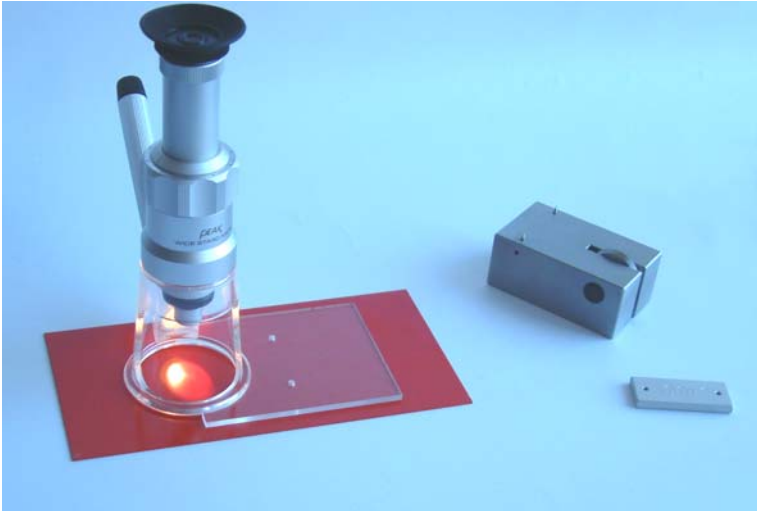

Figure 6. Microscope and template on a specimen
5. Keeping the template pressed down firmly against the specimen, place the microscope into the rounded shape of the template, with the light source orientated at right angles to the indentation (Figure 6).